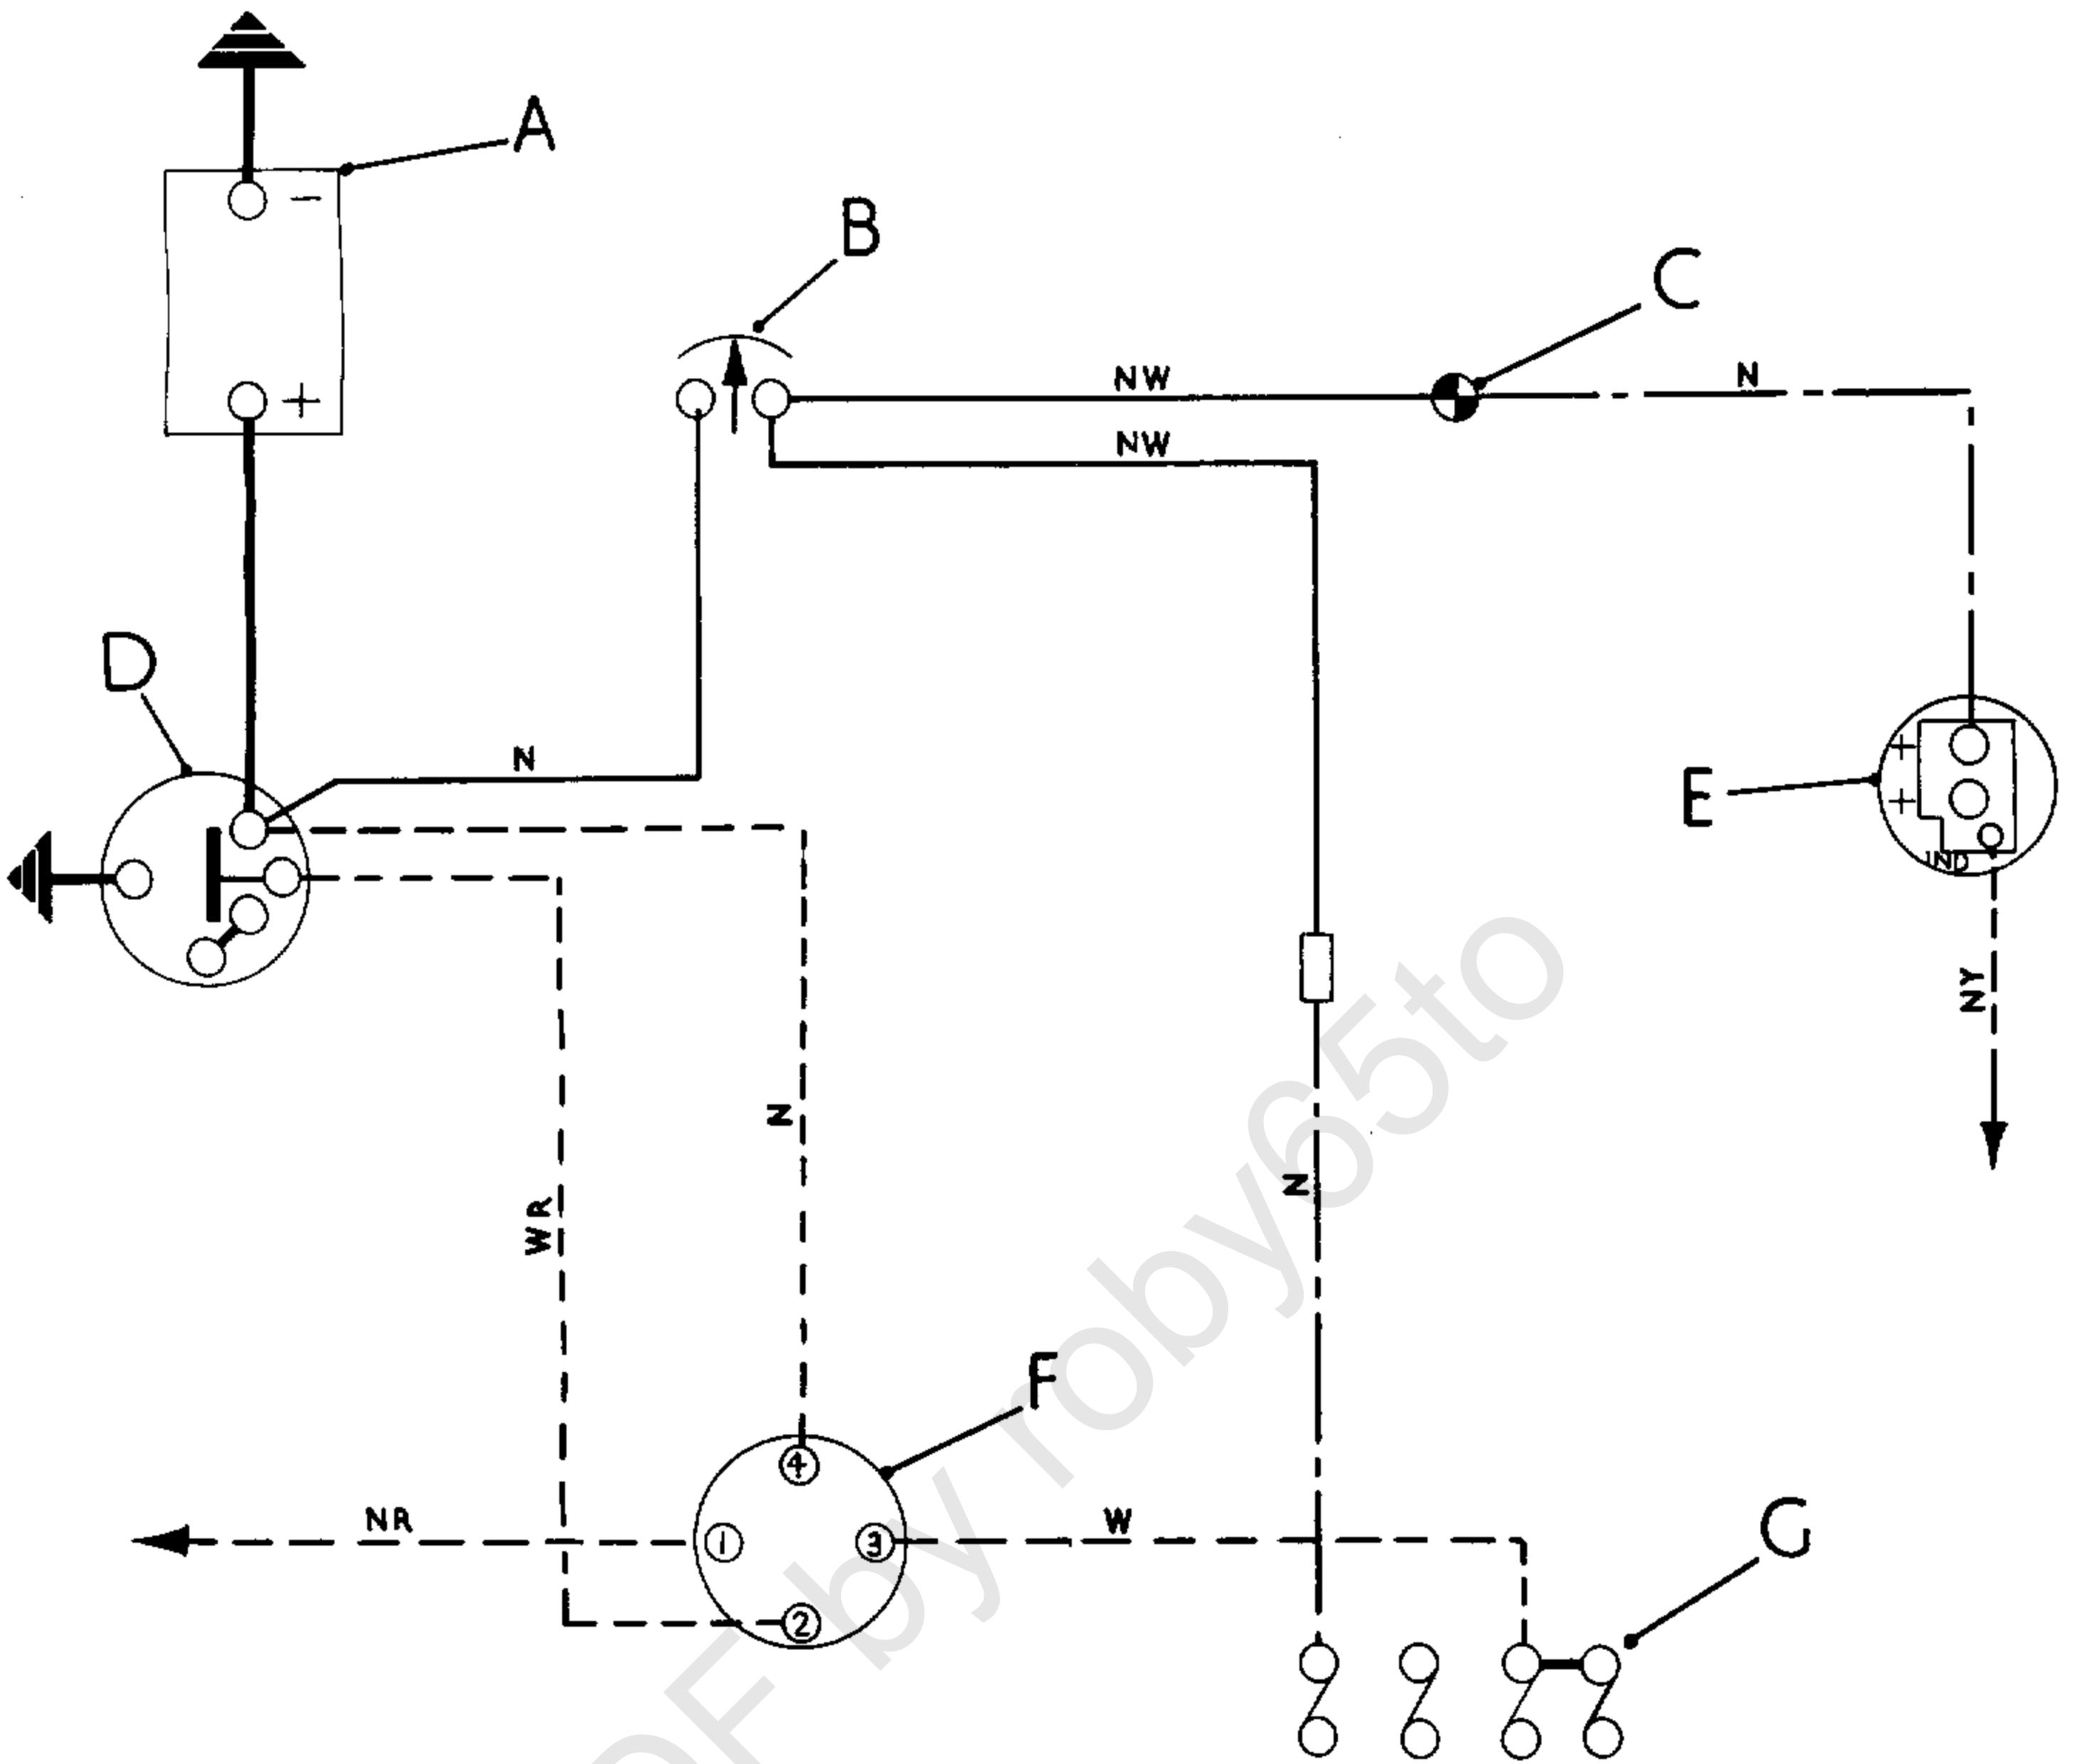

Fig. 3. Electrical circuit for ammeter installation - Diesel Models with 16 ACR alternator
8. Diesel Models - Disconnect the thick brown lead (twin leads if an 18 ACR alternator is fitted) from the starter solenoid and connect it to the terminal post together with the brown/white lead of cable assembly 579221. Figs 3 and 5.